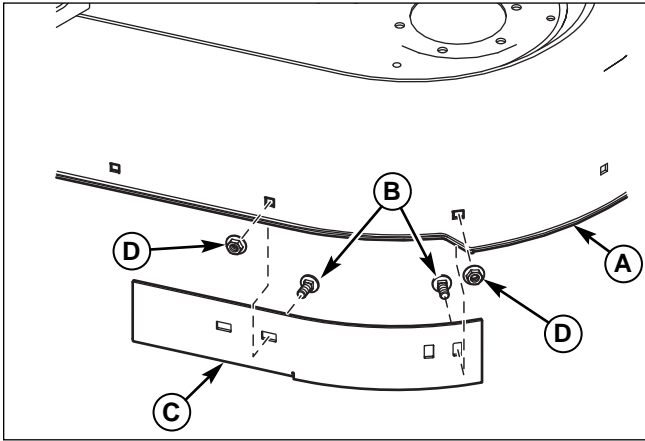

**Figure 3. Install Rear Spacers**
1. Install the rear spacers (C, Figure 3). Secure with two 1/2-13 x 2-1/2 capscrews (E), washers (D), spacers (C), and 1/2-13 nylock nuts (A) per side.